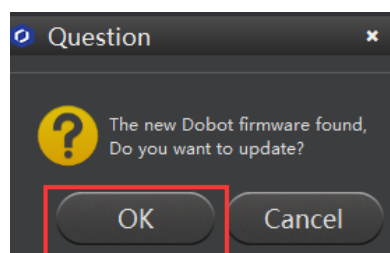

Figure 5.87 Confirm the firmware upgrade
2. Click **OK**, as shown in Figure 5.87. The Dobot firmware upgrade window is displayed.